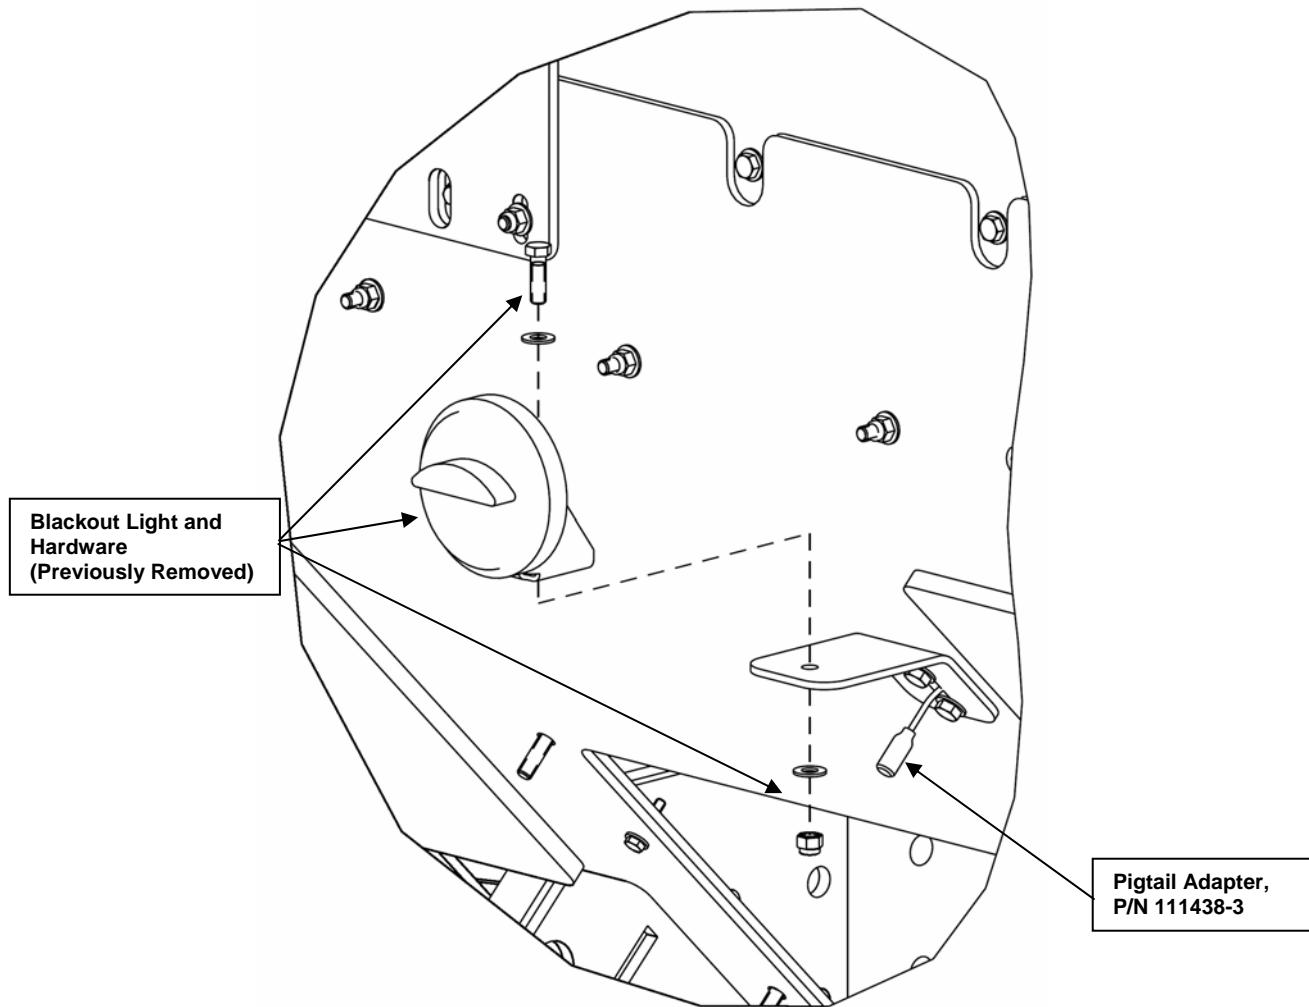

Figure 50. Front Blackout Light.
- I) Connect the mating end of the Pigtail Adapter (P/N 111438-1) to the Blackout Light wire that was previously disconnected. Remove the rubber boot from the other end of the Pigtail Adapter and rout the wire through a hole in the armor as shown in Figure 50. Re-install the rubber boot.
- m) Using the original hardware, attach the Blackout Light to the bracket, as shown in Figure 50.